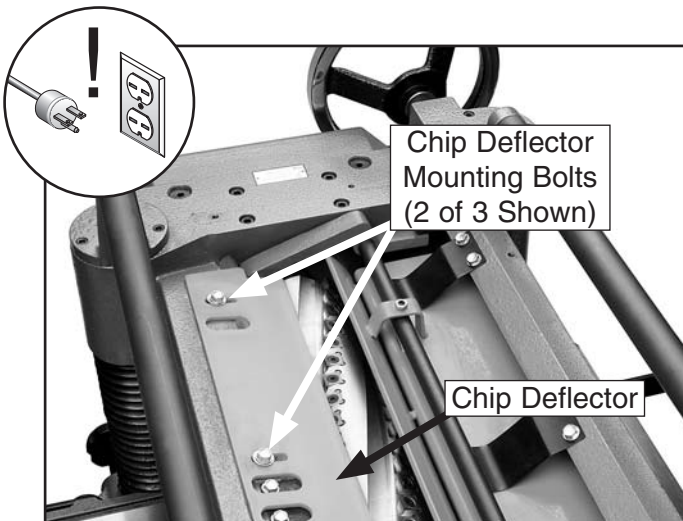

Figure 33. Chip deflector and mounting bolts.
3. Loosen the chip deflector mounting bolts (see **Figure 33**).